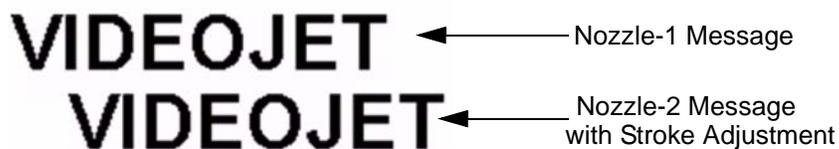

Figure 7-21: Stroke and Drop Adjust - Example
- 4 Use the arrow keys or enter in a value to align the nozzle-2 portion of the message with then nozzle-1 portion of the message. (Refer to Figure 7-21)